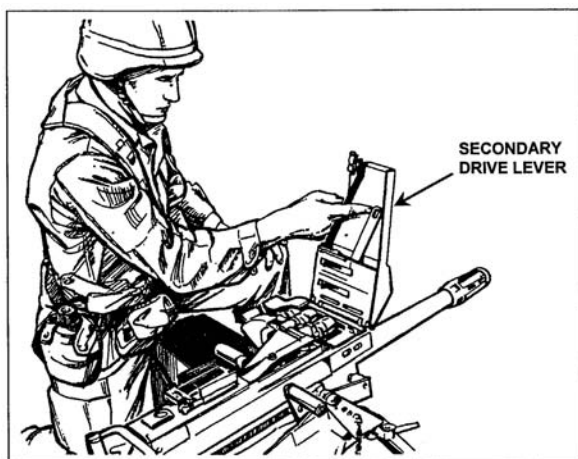

Figure 071-030-0005-3. Indexing the feed slide assembly
4. Charge the weapon (figure 071-030-0005-4).